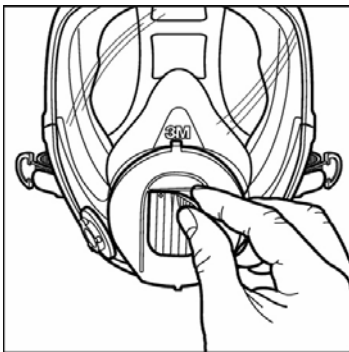

Fig. 14
2. Grasp valve and pull each valve stem out from valve seat. (Fig. 14)